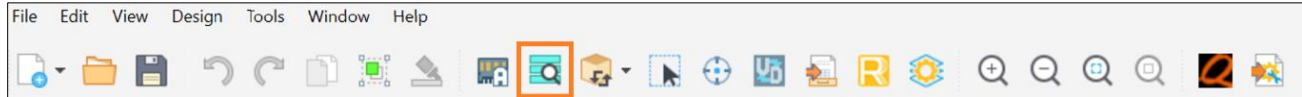

Figure 5.15. Validate the Design in Lattice Propel Builder
6. To validate the design, select **Design > Validate Design** or click the **Validate Design** icon (as shown in Figure 5.15). Ensure the TCL console shows no error, and only the expected INFO messages and WARNING appear.